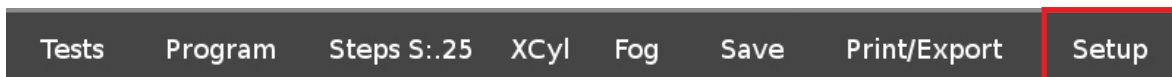

Figure IS-20 Setup
2. Touch **SETUP** on the Controller screen, located on the bottom right of the screen. Refer to Figure IS-20.